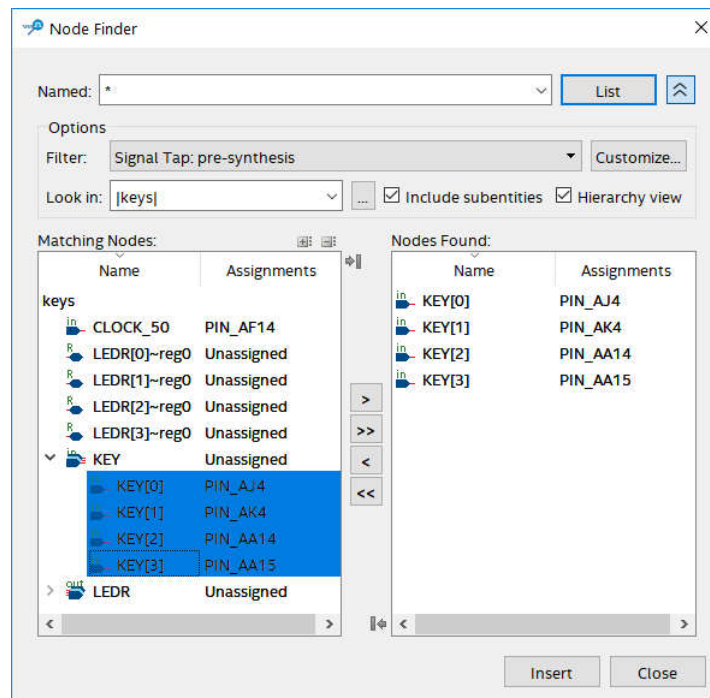

Figure 7. Adding nodes in the Node Finder window on a DE-series board.
3. We now need to add the nodes in the project that we wish to probe. In the Setup tab of the SignalTap window, double-click in the area labeled Double-click to add nodes, bringing up the Node Finder window shown in Figure 7. Click on  or  to show or hide more search options. For the Filter field, select **SignalTap: pre-synthesis**, and for the Look in field select **|keys|**. Click List. This will now display all the nodes that can